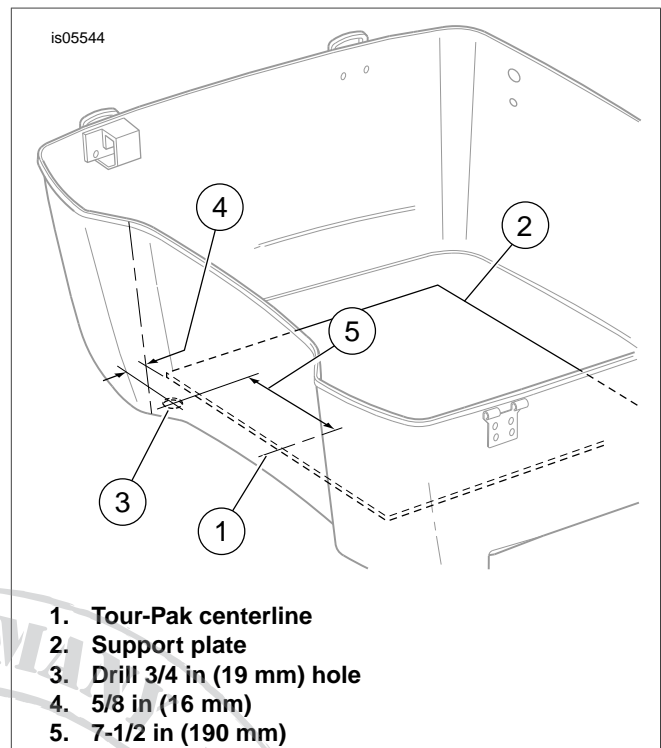

Figure 2. CB Antenna Cable Drilling Location (Type 1 Tour-Pak)
- a. See Figure 2. Measure and determine the center (1) of the support plate (2) that covers the floor of the Tour-Pak.
- c. Measure again and mark the center of the support plate (2) at the front of the tape strip, and again near the back. Draw a straight line through the two marks.
- d. Facing the tape, measure 7-1/2 in (190 mm) (5) from the center line to the right side floor of the Tour-Pak.
- g. Measure forward 5/8 in (16 mm) (4) from the front edge of the support plate, and draw a short line across the line drawn in the step above.
- j. From the underside of the Tour Pak drill a 3/4 in (19 mm) hole (3) from the outside of the Tour-Pak to the inside.